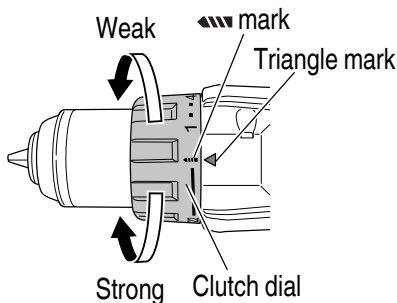
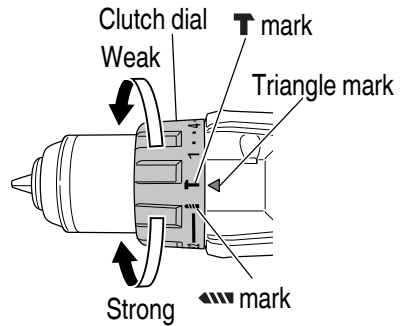

Fig. 13
Fig. 15
6. Confirm the clutch dial position (See **Fig. 13**)
<DV18DE> (See Fig. 15)
(See **Fig. 13 on page 39, Fig. 15 on page 40**)